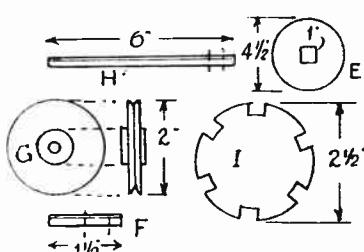

Fig. 2—The pulley parts
From  $\frac{1}{2}$ in. wood cut the part (E), shown in Fig. 2. Push this over the pillar, removing the top part (A) first, and screw it from below (A), fixing it firmly to the latter part. From  $\frac{1}{2}$ in. round wood rod, cut the spindle of the handle (F) and the shaft (H). Also from  $\frac{1}{2}$ in. wood cut the round disc (G), and file a groove round its edge rather deeply.